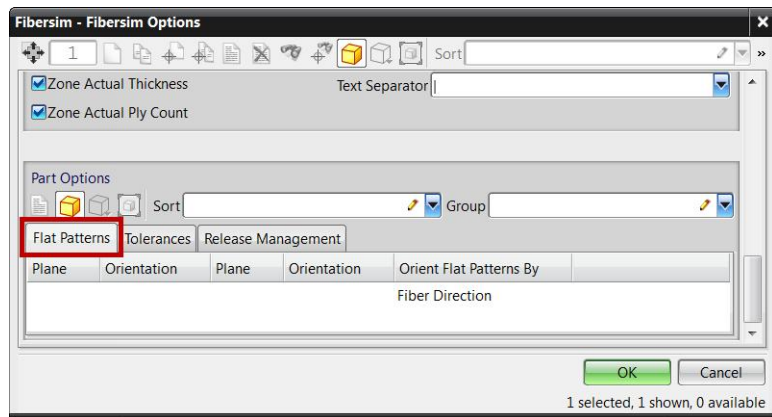

Figure 3–56
2. In Fibersim, select **Tools > Options > Fibersim Options**. The Fibersim dialog box opens. Select the *Flat Patterns* tab if it is not already selected, as shown in Figure 3–56.